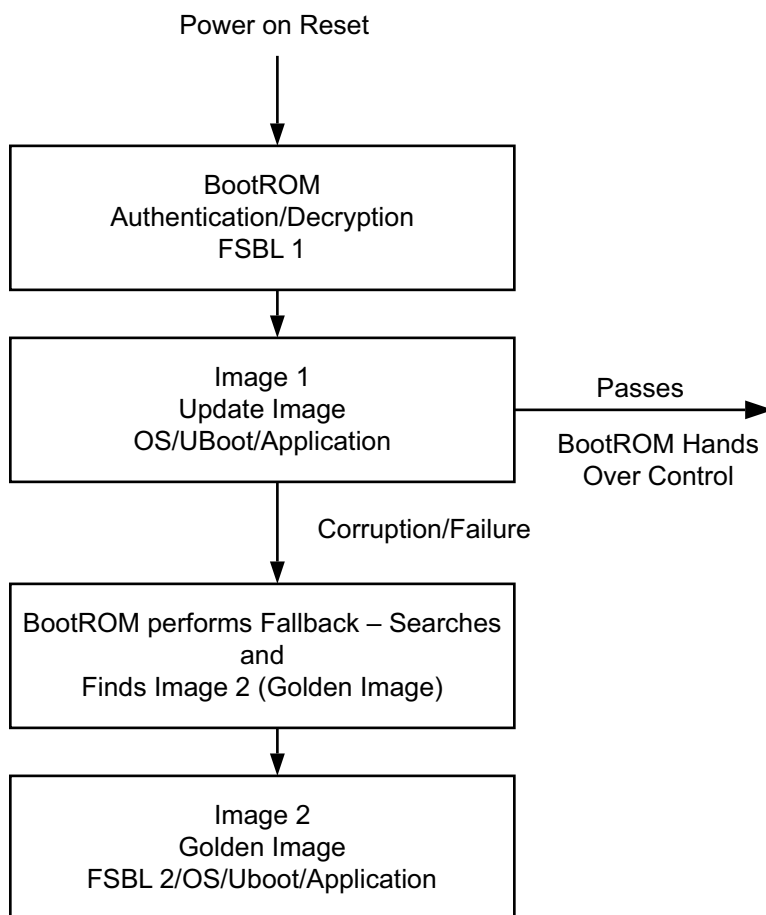

Figure 3-6: Power on Reset Fallback
- If there is corruption in the boot header, BootROM does a fallback search to find the next valid image. In the example shown in Figure 3-6, page 36, BootROM validates the Image 2 boot header, and, if no corruption, hands over the Image 2 to FSBL, which processes the rest of the partitions in Image 2.